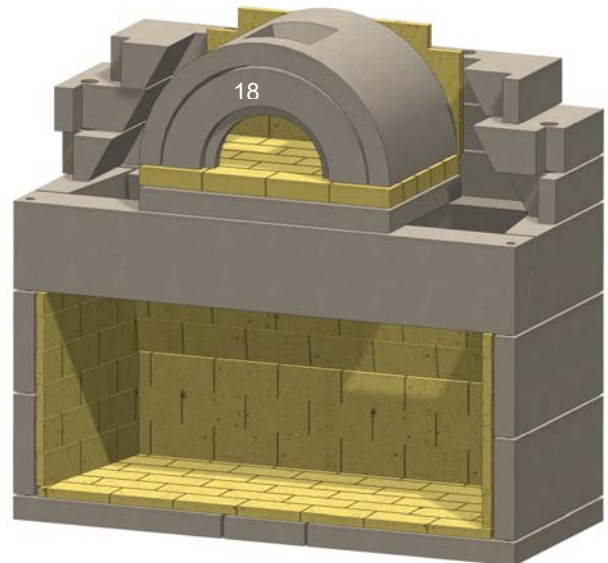

Figure 26. Oven Front Panel
Q. Install the oven front panel. See Figure 26.